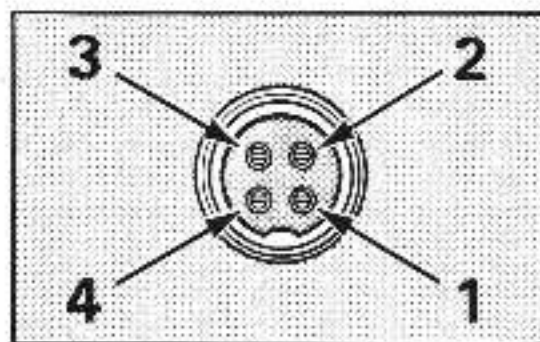

Fig. 3. Microphone plug pin numbers viewed from rear of pin receptacle.
5. The wires must now be soldered to the pins as indicated in the above wiring tables. If a vise or clamping tool is available it should be used to hold the pin receptacle body during the soldering operation, so that both hands are free to perform the soldering. If a vise or clamping tool is not available, the pin receptacle body can be held in a stationary position by inserting it into the microphone jack of the front panel. The numbers of the pins of the microphone plug are shown in Fig. 3, as viewed from the back of the plug. Before soldering the wire to the pins, pre-tin the wire receptacle of each pin of the plug.